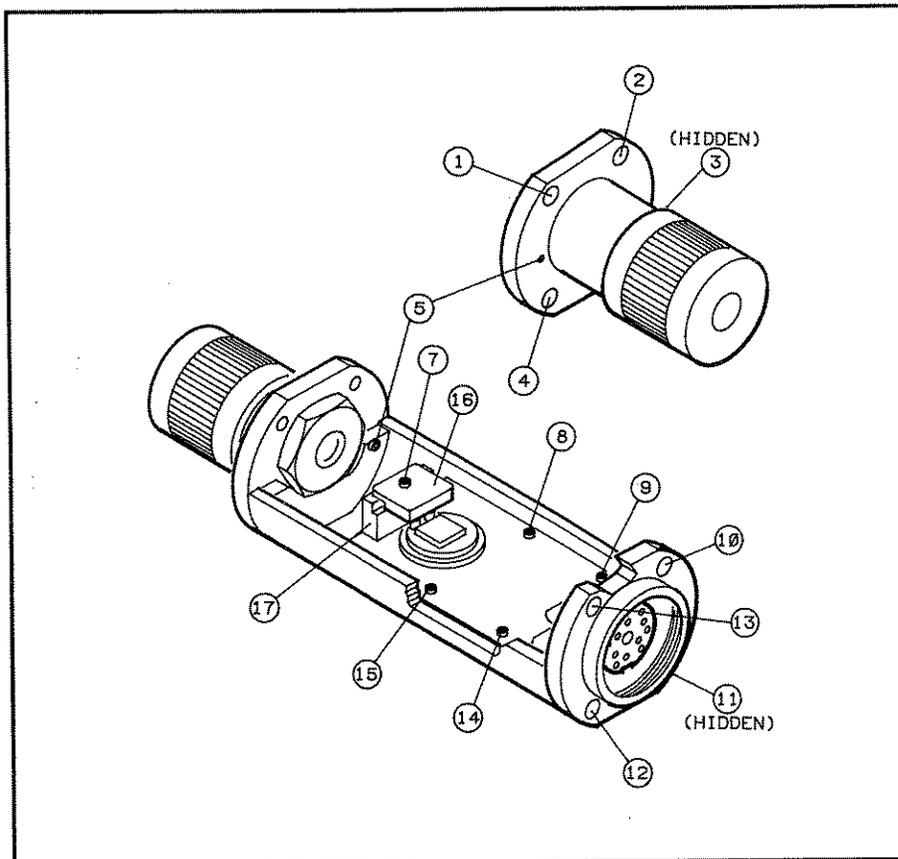

Figure 8. Power Sensor Hardware Locations
3. Position the Power Sensor as shown in Figure 8 (top). The small hole 5 should be on the left side of the RF input connector. Remove the allen cap screws 1, 2, 10, and 13. Loosen 11 and 12. Remove the upper chassis from the Power Sensor.
1. Set the printed circuit board and connector into place as shown in Figure 8, bottom view.